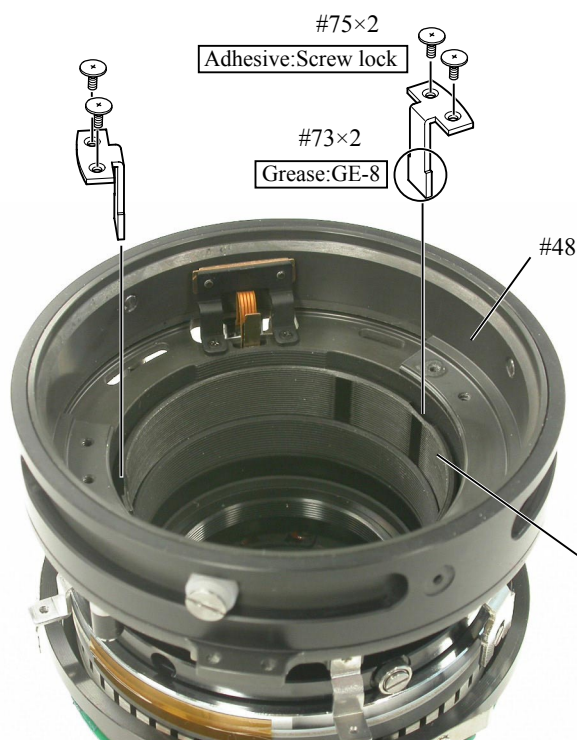

Fig.1
- Insert 2 levers (#73) into the notches of the cam ring. (ref. Fig.1)